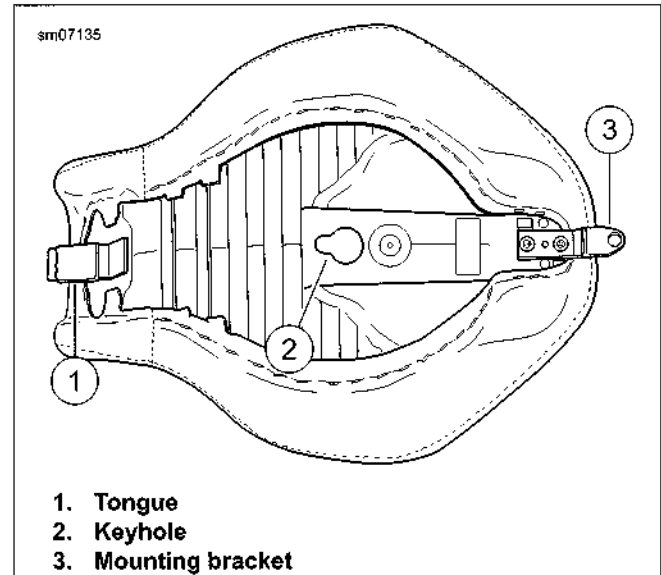
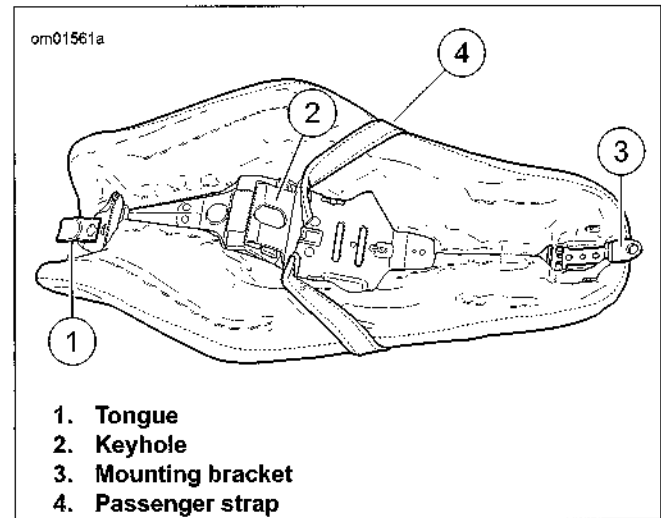

Figure 2-176. Seat: Solo
Figure 2-177. Seat: Two-Up
4. See Figure 2-176 or Figure 2-177. Slide seat rearward to detach seat tongue (1) from rear fuel tank bracket.
5. Verify that tongue and mounting bracket (3) are tightly secured to the seat bottom.